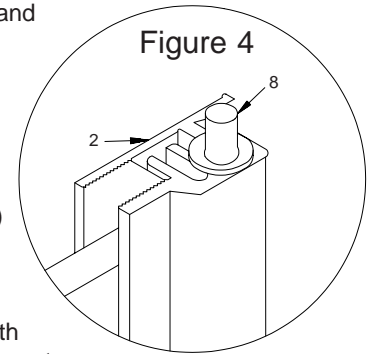

Figure 4
4. Drive hinge pins, the end of pin with id. circle (8) into ends of hinge rail. Assemble hinge clips/ bushings (9 & 11) and then insert into hinge jamb (10) See Figures 4 & 5. Drive one clip all the way in and the other half way in. Set hinge jamb with clips in place over hinge pin and drive protruding clip into place, which secures hinge jamb to hinge rail.